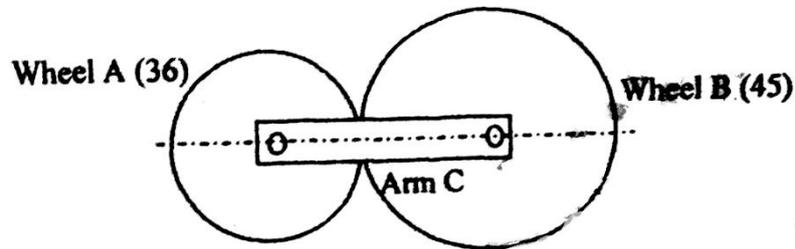

Fig 14(b)
5) In the epicyclic gear train shown in Fig 14 (b) (i) the compound wheels A and B as well as interval wheels C and D rotate independently about the axis O. The wheels E and F rotate on the pins fixed to the arm a. All the wheels are of the same module. The number of teeth on the wheels are $T_A = 52$, $T_B = 56$, $T_E = T_F = 36$.